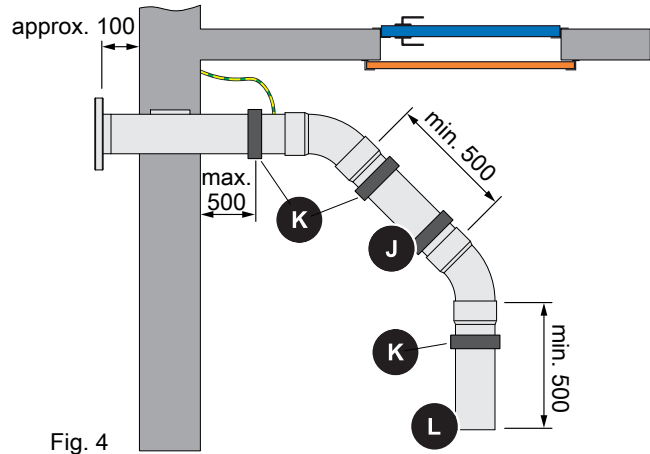

Fig. 4
- Embed or enclose the filling couplings in the wall leaving a distance of approx. 100 mm from the wall (Fig. 4). The rotation protection must be positioned within the wall
### Extension and attachment of the filling couplings (Fig. 4)